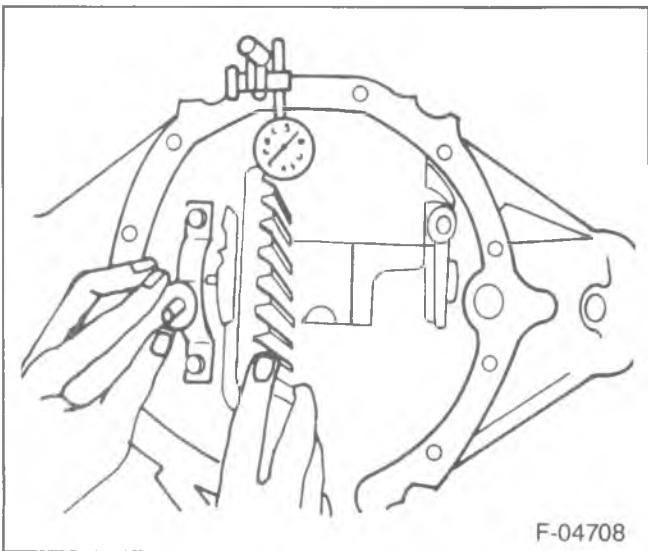

Figure 37—Installing Side Bearing Gaging Tools
4. Insert J-22779 between the axle housing and the left bearing cup (figure 37).